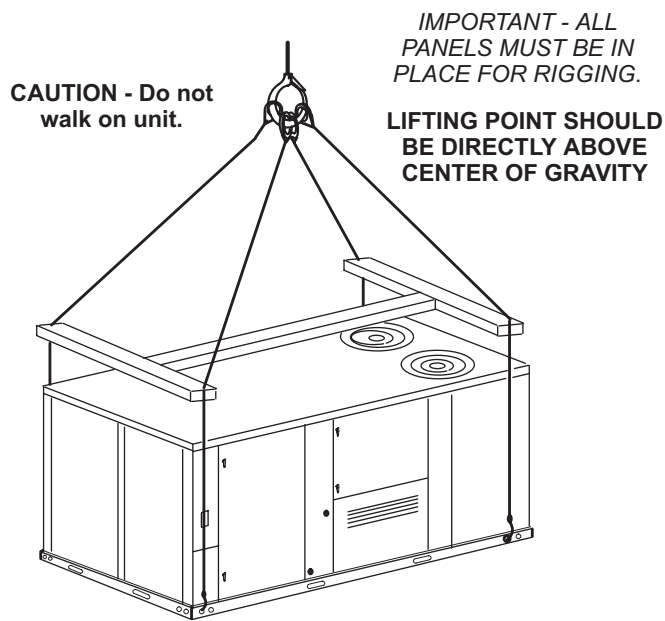

FIGURE 2
- 2 - Connect rigging to the unit base using both holes in each corner. See FIGURE 2.